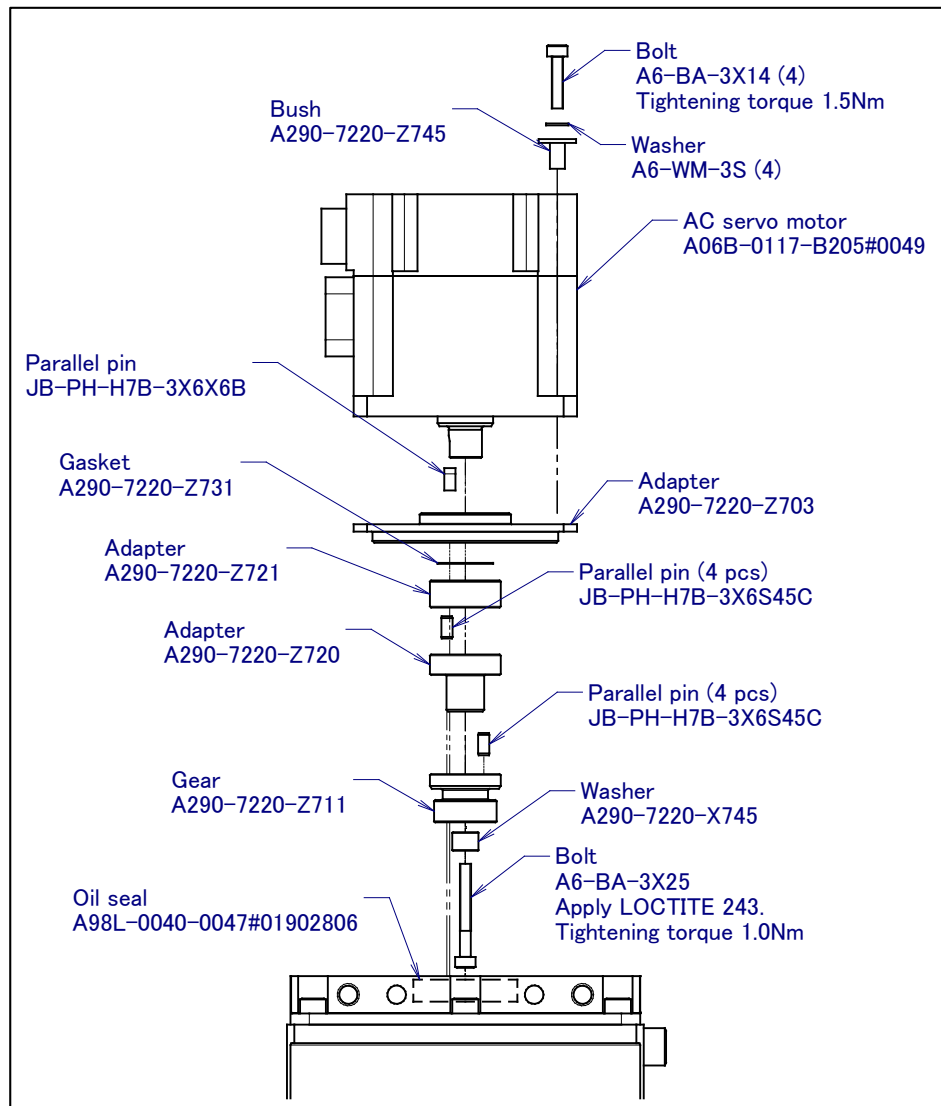

Fig. 8.5 (a) Replacing the motor (Servo torch for steel)
- 5 Loosen the M3 bolt at the top of the shaft by referring to Fig. 8.5, and remove the gears and adapters. Note) Do not forcibly remove the resin parts such as adapters. Otherwise, they would be damaged.